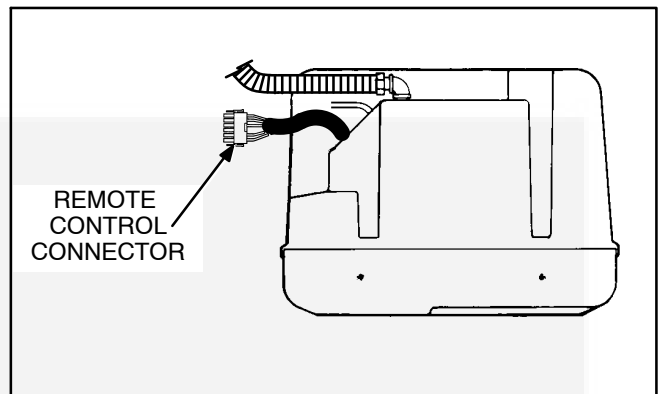

FIGURE 3-16. REMOTE CONTROL CONNECTION
6. Connect the remote control harness connector to the mating connector on the left side of the genset (Figure 3-16).